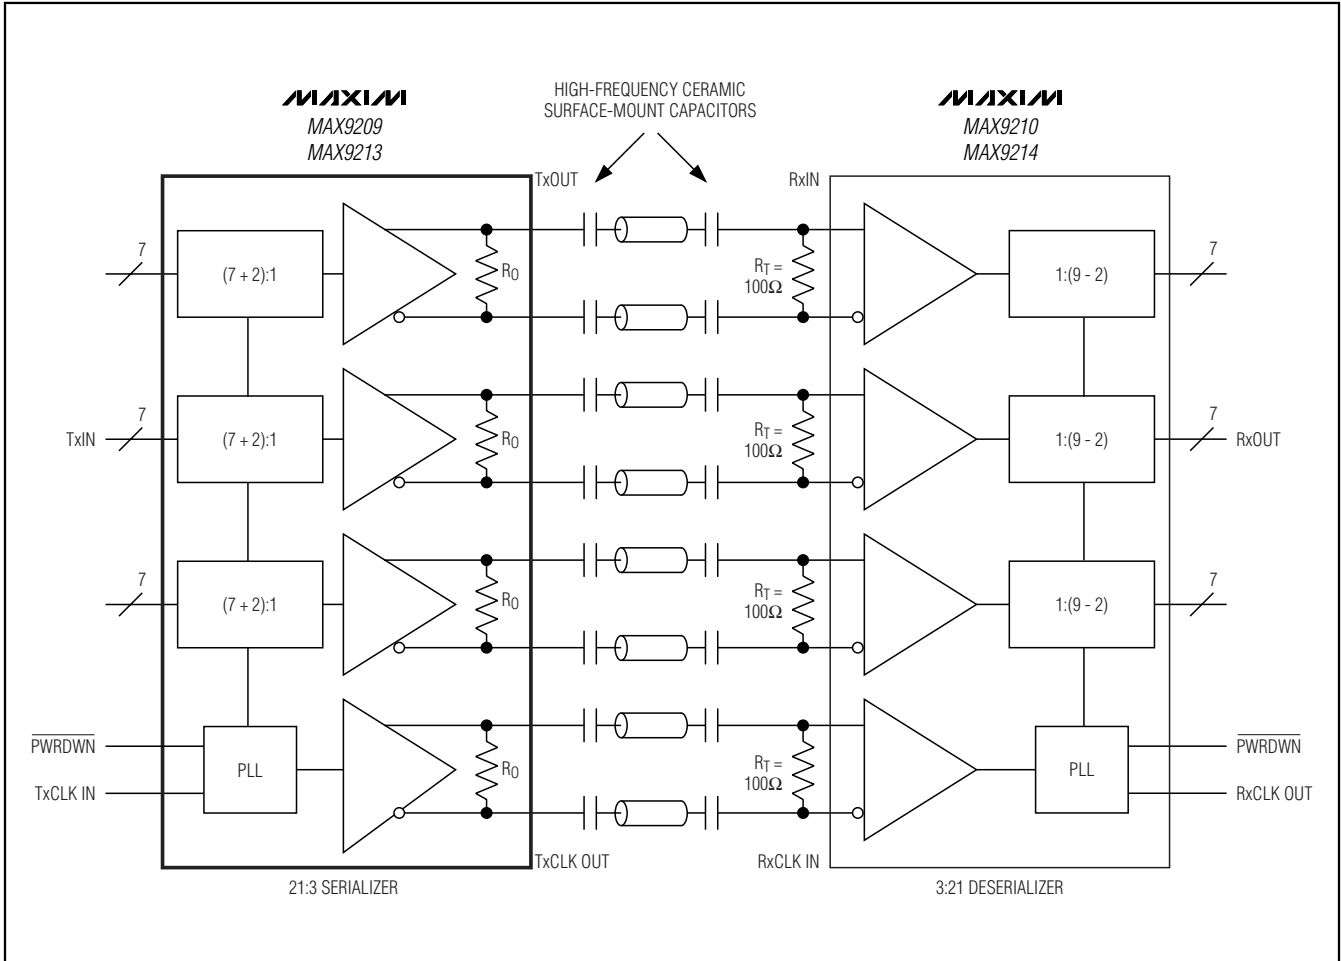

Figure 15. Four Capacitors per Link, AC-Coupled, DC-Balanced Mode
The RC network for an AC-coupled link consists of the LVDS receiver termination resistor (R_T), the LVDS driver output resistor (R_O), and the series AC-coupling capacitors (C). The RC time constant for two equal-value series capacitors is $(C \times (R_T + R_O)) / 2$ (Figure 14). The RC time constant for four equal-value series capacitors is $(C \times (R_T + R_O)) / 4$ (Figure 15).
Equation 1 is for two series capacitors (Figure 14). The bit time (t_B) is the period of the parallel clock divided by 9. The DSV is 10. See equation 3 for four series capacitors (Figure 15).
Equation 1 altered for four series capacitors (Figure 15) is: